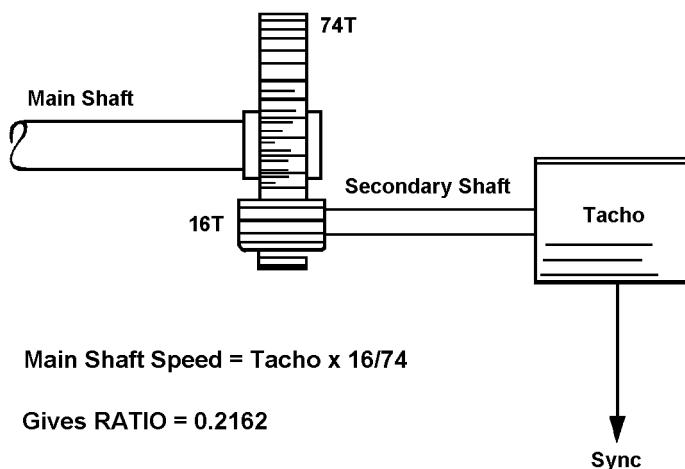

Fig. 15.1 - Use of RATIO Mode for Indirect Synchronising
- b. Where no direct connection to the desired trigger signal source is possible. An example of this is shown in fig. 15.1, where the rotational speed of the main shaft can only be measured indirectly via a tachometer connected to a geared secondary shaft.